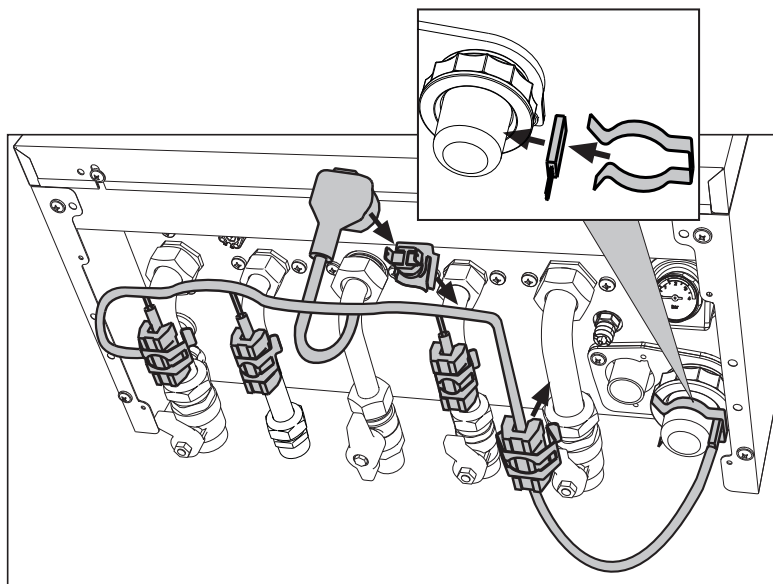

fig. 39- Frost protection kit
In case of installation outside in a place partially protected for temperatures below  $-5^{\circ}\text{C}$  and to  $-15^{\circ}\text{C}$ , the boiler must be fitted with the special frost protection kit for protecting the circuit. Connect the kit to the PCB as indicated in the wiring diagram in fig. 60 (ref. 288) and position the thermostat and heaters on the pipes as indicated in fig. 39 and in the instructions provided with the kit.